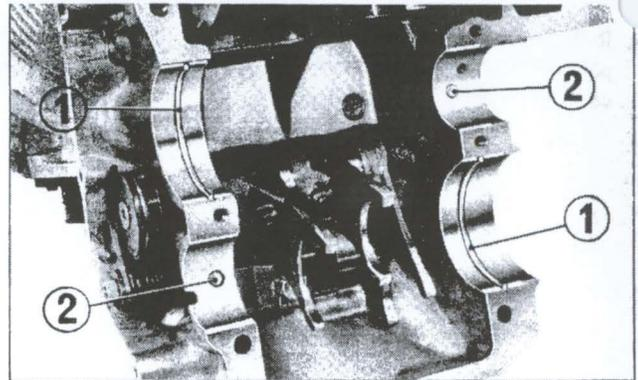

Fig. 4-75 (1) Ball bearing retaining ring
2. Insert the shift fork guide pin clips properly as shown in Fig. 4-75.